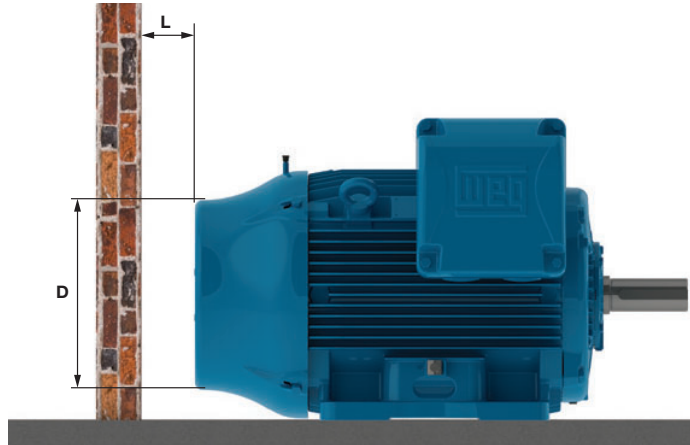

Figure 49 - Minimum clearance to the wall
- Ensure that the air inlet and outlet opening are not blocked. The minimum clearance to the nearest wall (L) should be at least ¼ of the fan cover diameter (D), see Figure 49. The intake air temperature must be at ambient temperature.